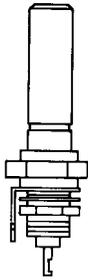

Fig. 9—435A or B Plug
2.09 435A and B: The 435A and B (Fig. 9) are single, coaxial-type plugs with one end designed for coaxial connection to an associated jack. The other end is threaded for assembly to associated apparatus and is designed for wire connections. The 435A and B plugs are used on the L4 Coaxial System. The 435B plug has a teflon bushing assembled in the coaxial end of the plug for alignment purposes and can be used for plug-in applications.